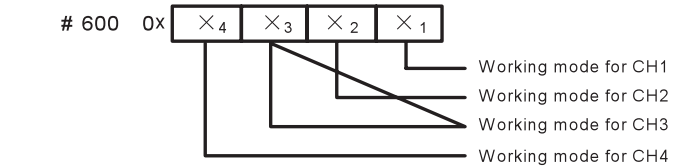

Figure 2-1 Mode setting element vs. channel
6. BFM#600: channel mode selection, used to set the working modes of CH1 ~ CH4. See Figure 2-1 for their correspondence.